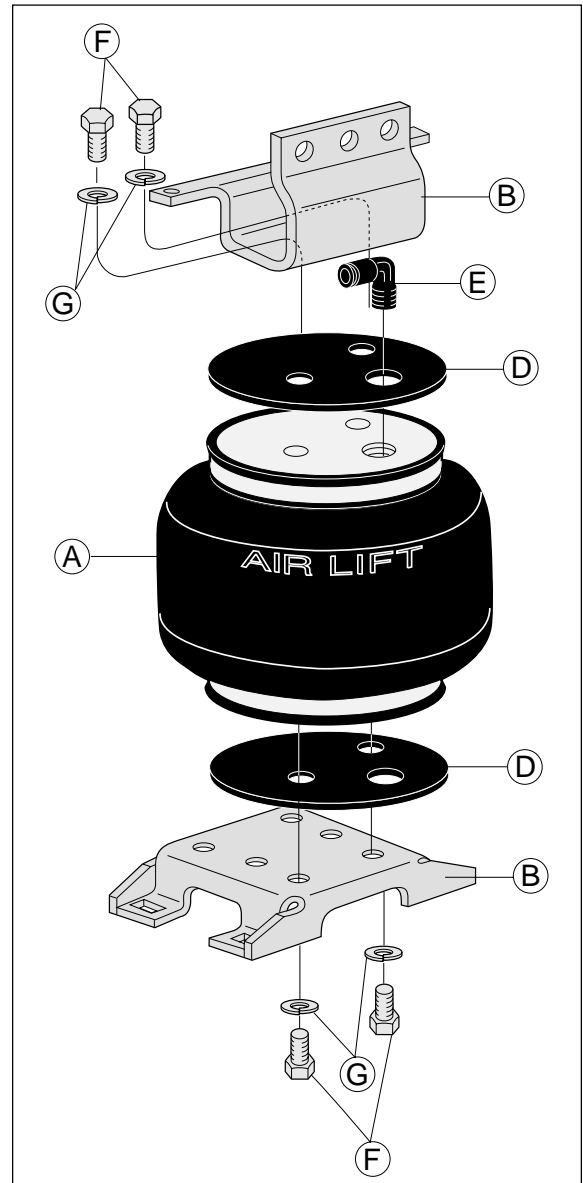

Figure 2
4. Place the lower bracket onto the air spring assembly in an offset position (Figure 2).
6. Use a $\frac{3}{8}$ " bolt (F) and a $\frac{3}{8}$ " lock washer (G) through the holes marked with an "A" to attach the lower bracket and backer plate to the assembly. Again, be sure that the bellow is offset to the fitting side. Tighten hardware to 20 ft-lbs (Figure 2).